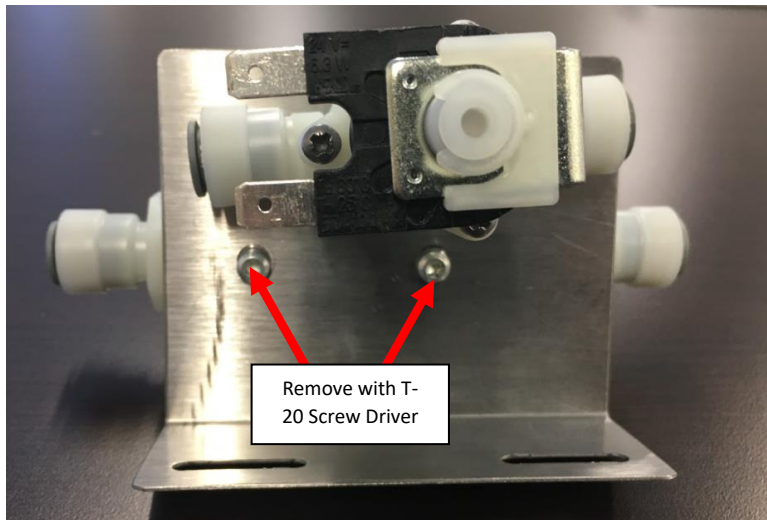

Figure G3: *Screws Shown.*
4. Remove the Solenoid Flowmeter Module from the bracket by removing the two screws and split washer holding it in place with a T20 Drive Screwdriver. See **Figure G3**.